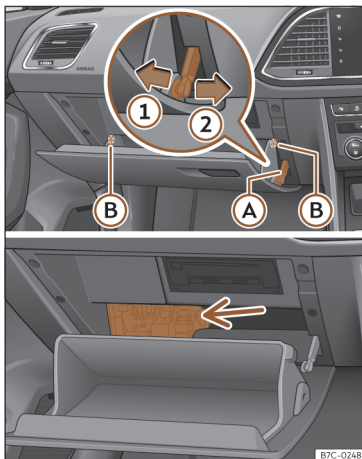

Fig. 46 Glove box (right hand drive): fuse box access.
- Undo the opening limiter >>> **Fig. 46** (A) in two steps: first, unlock the limiter by pulling back on it (arrow ①) and then move it gently to the right (arrow ②). Remove the guide when the cover is in the normal opening position (30°).
- Free the side pivots (B) to release the cover to its second opening position (60°).